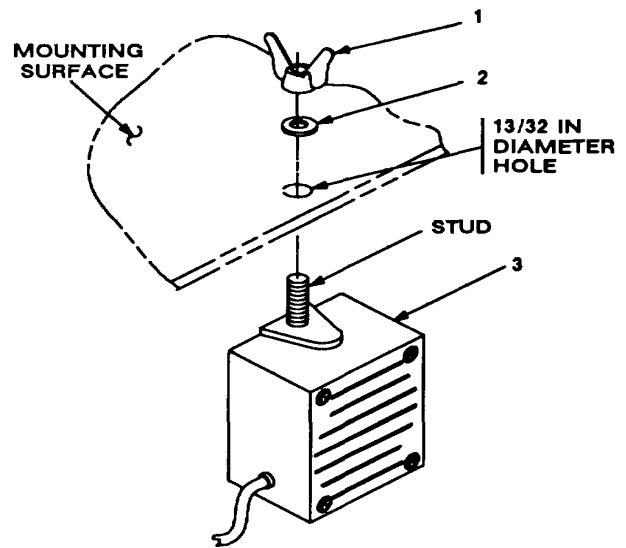

Figure 5-6 (1). Speaker Installation - A
Method A. See figure 5-6 (1).
- a. Determine speaker (3) location.
- c. Insert speaker (3) stud through drilled hole; then secure with lock washer (2) and wing nut (1).